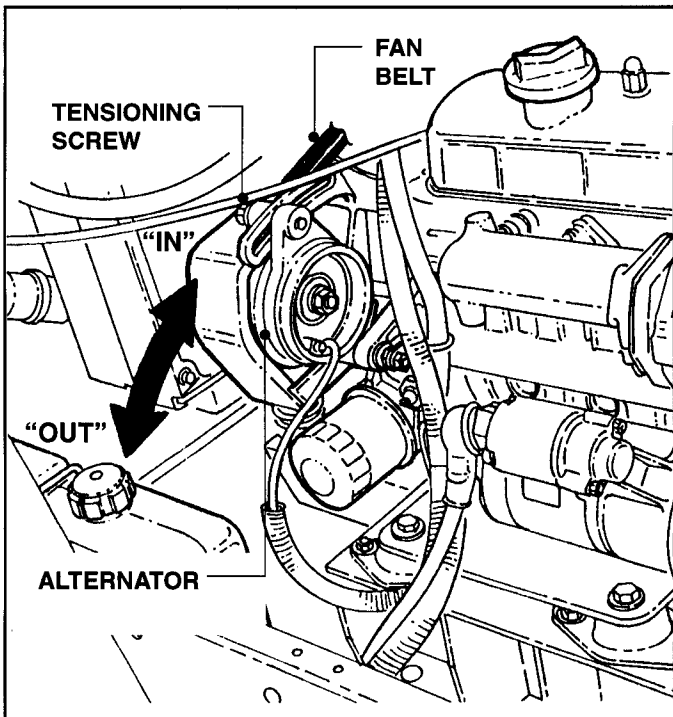

FIGURE 5.6
3. To adjust Fan Belt tension, loosen Tensioning Screw at top of Alternator. See Figure 5.6. Move Alternator "IN" or "OUT" until Belt tension is correct. Retighten Tensioning Screws.